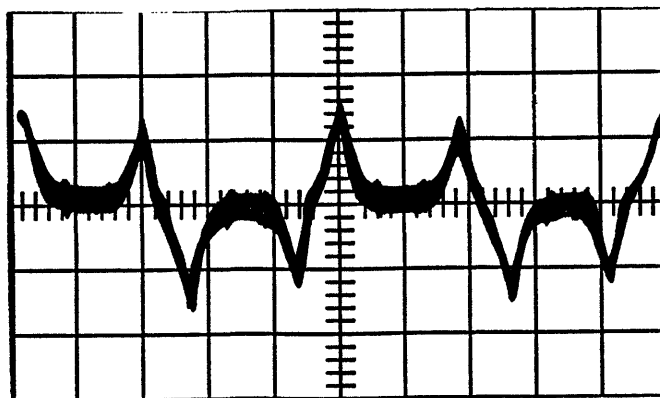

FIGURE 4
- G.** Observe the waveform displayed on the oscilloscope. It should appear similar to the display in Figure 4.